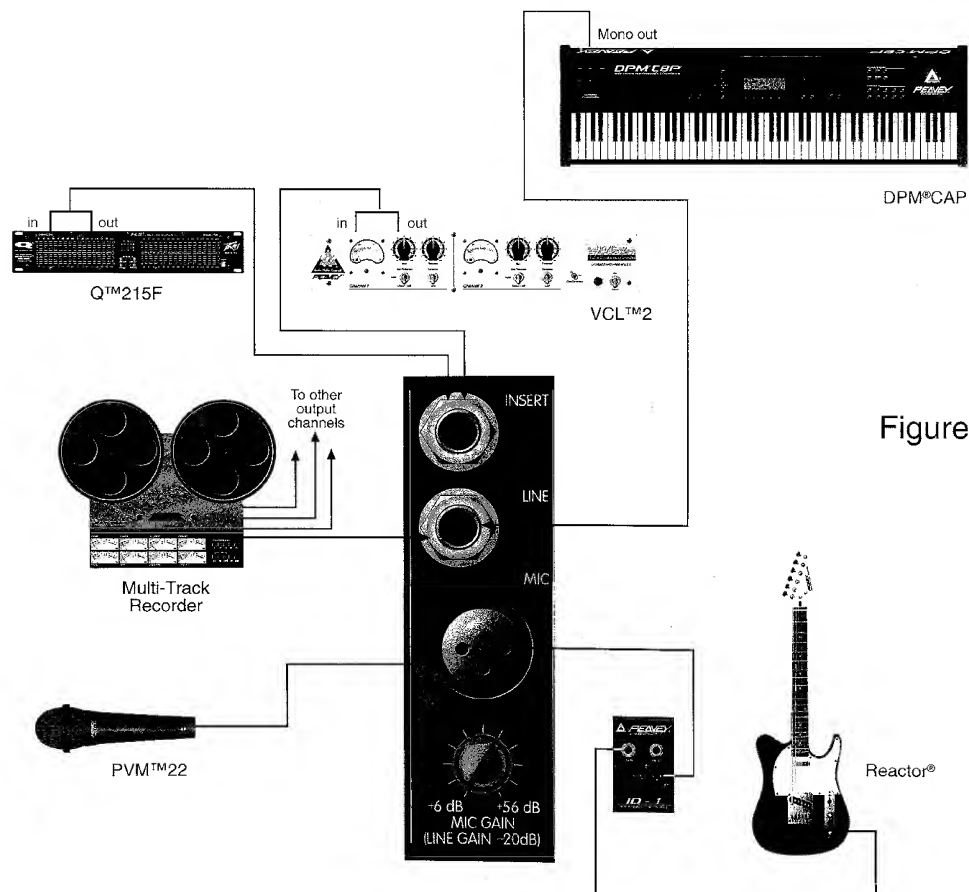
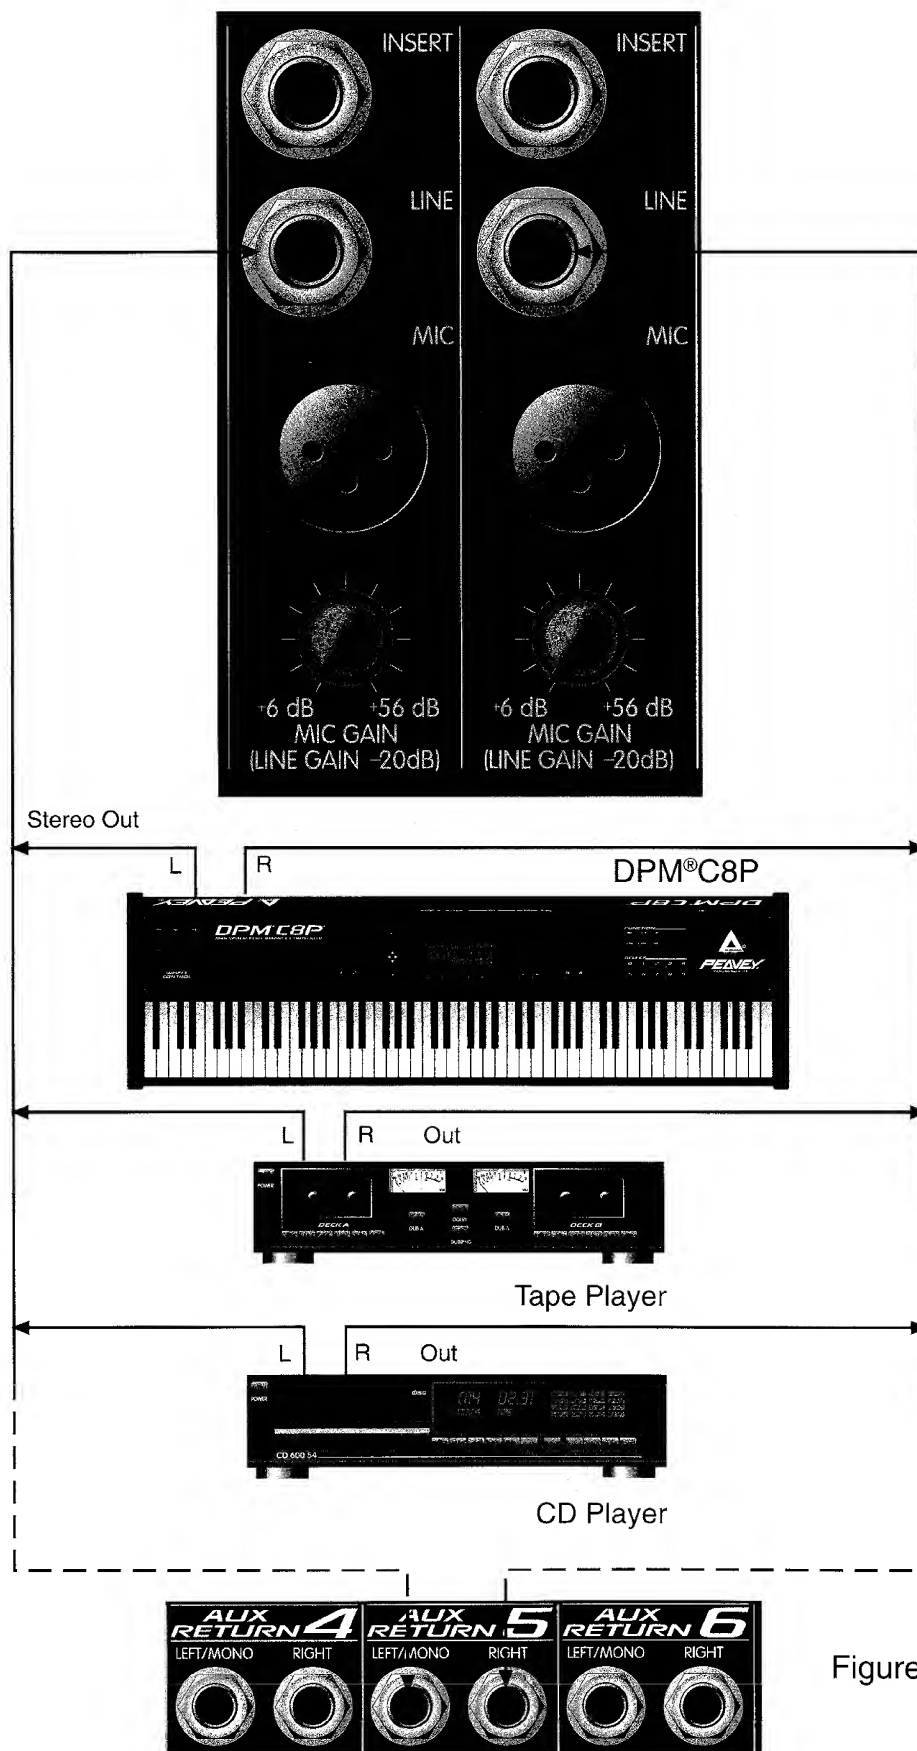

Figure 1
Figure 2
1. Microphones and other low impedance sources are connected to the XLR mic inputs; high level line inputs, such as electronic musical instruments, are connected to the LINE inputs (Fig.1). High impedance instruments (guitars) are also connected to the mic input through a direct interface box (such as Peavey ID™-1). If problems arise because a microphone either picks up an out-of-phase signal (as when using multiple drum microphones), or a very loud signal that causes clipping even at a minimum gain setting (as when close miking an amplifier or a drum head), it should be connected to a channel with PAD and POLARITY switches. Stereo line level sources (synth tape, CD, etc.) should be connected to one of the stereo AUXILLARY returns, or to two of the mono line inputs - one panned left, the other panned right (Fig. 2).